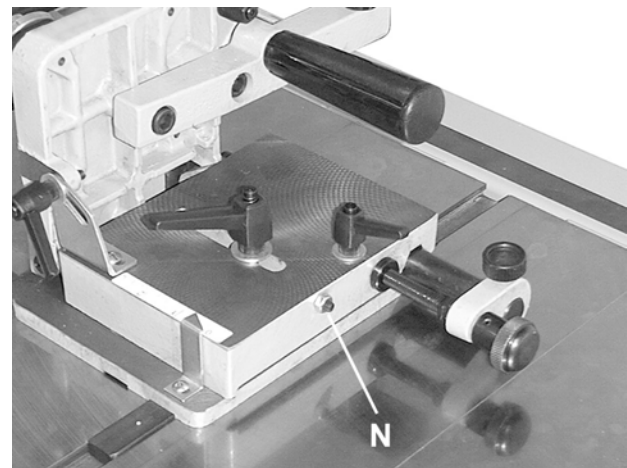

Figure 6
- To prevent the fence from being pushed, or moved, into the blade, loosen the nut (N) on the setscrew and turn the setscrew clockwise until it bottoms out (Figure 6). Tighten down the nut.